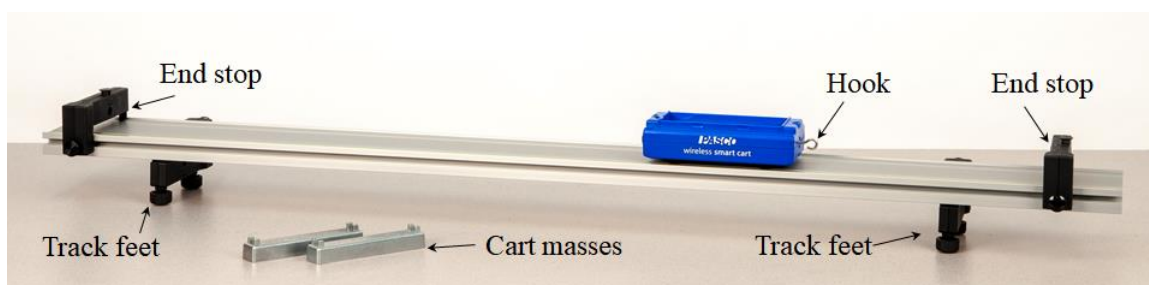

Figure 1: Experimental Setup
1. As shown in Figure 1, set up the track with feet underneath at both ends. On the upper side of the track, attach an end stop at each end.
3. Attach the Hook to the front of the Smart Cart as shown in Figure 1.